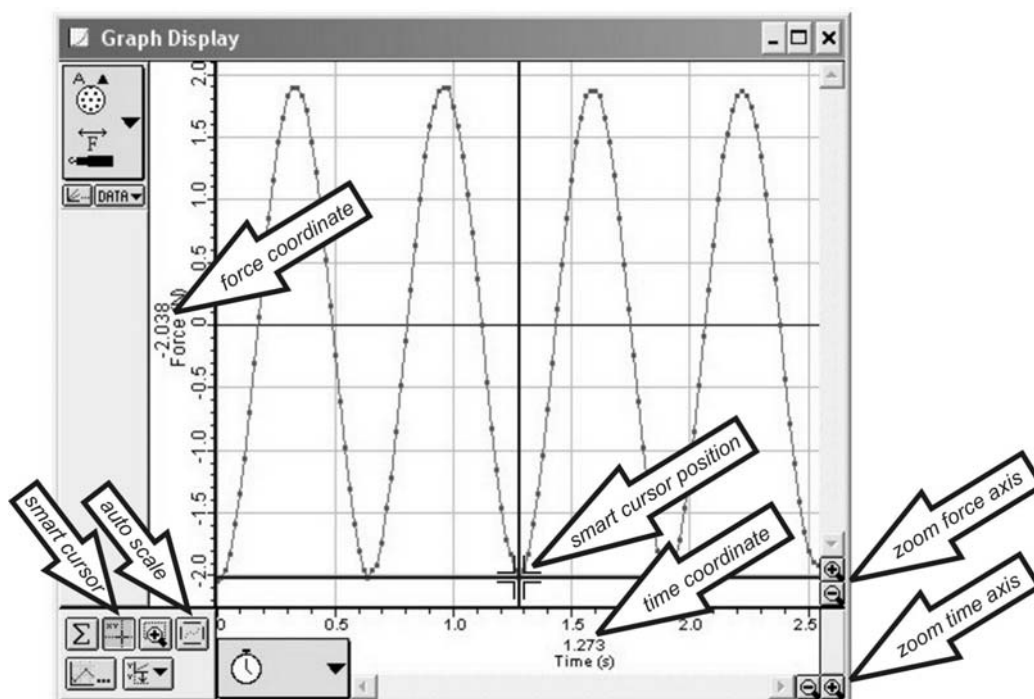

Fig. 9 Recorded oscillations as displayed in the Graph Window of the program.
Maximise the Graph Window and click the autoscale button in it - see **figure 9**. The graph displays how the restoring force of the spring, F_R (the dependent variable), changed with time, t (the independent variable).
Click on the smart cursor in the Graph Window - **figure 9** - and move it around in the graph area. Note how the force and time coordinates of the cursor are displayed next to the Time(s) and Force (N) axis labels of the graphs - also indicated in **figure 9**.